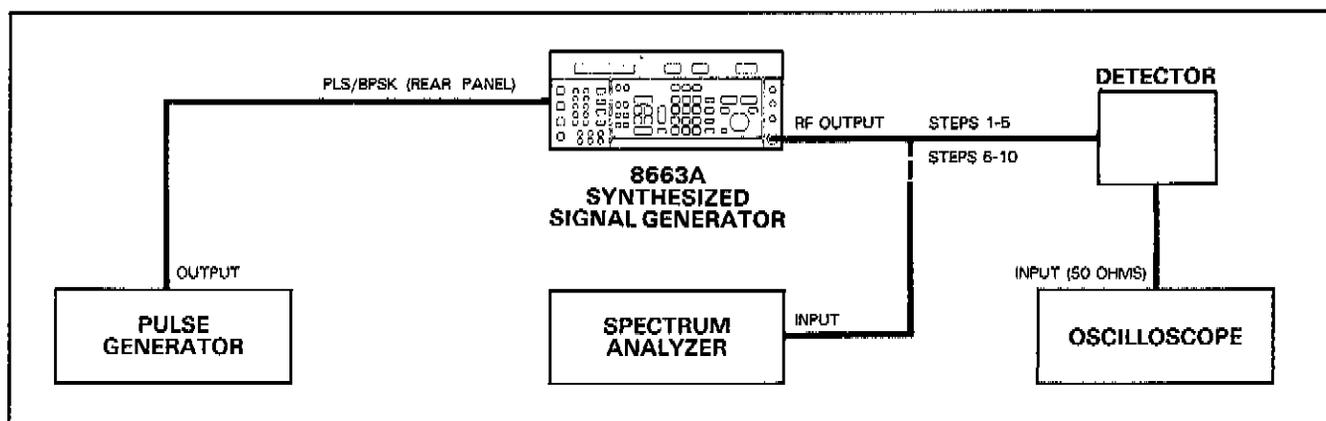

Figure 4-5. Pulse Modulation Test Setup
1. Connect the equipment as shown in Figure 4-5.